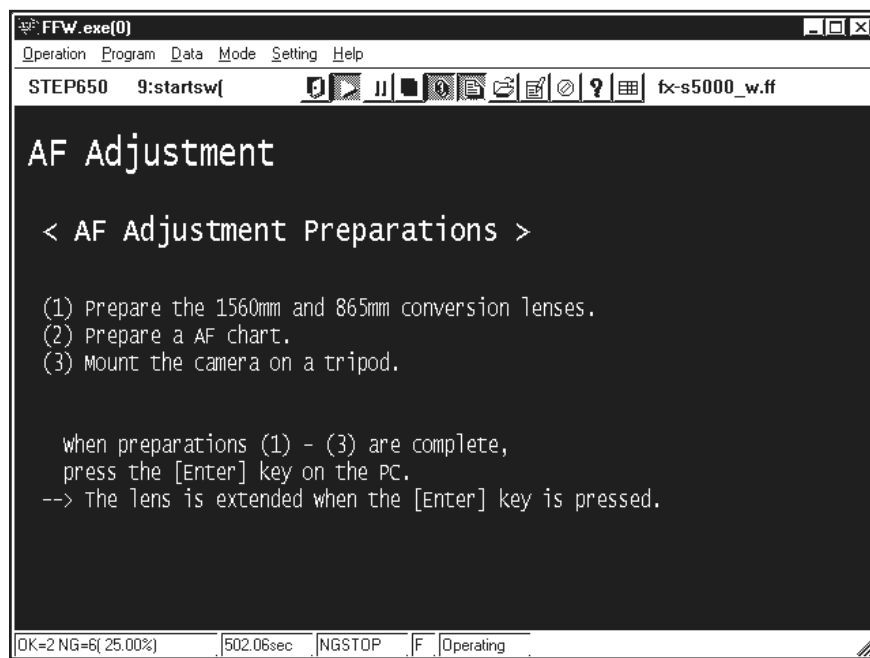

Fig.18
---> The **[AF Adjustment Preparation Screen (Fig.18)]** appears.